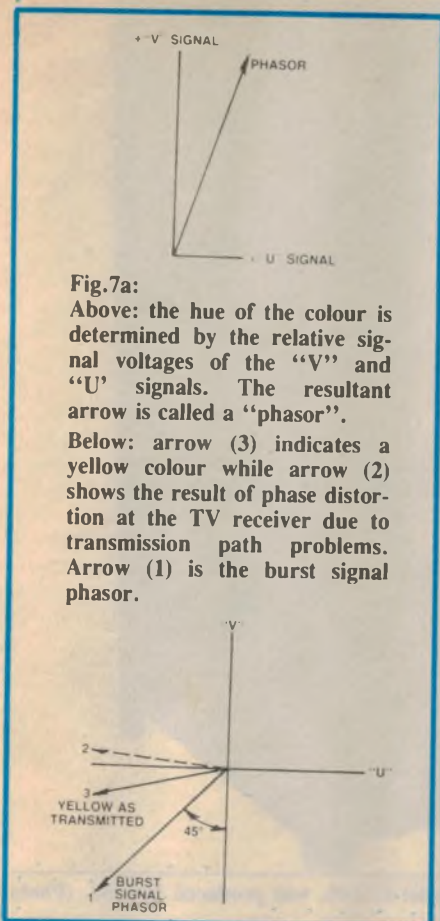
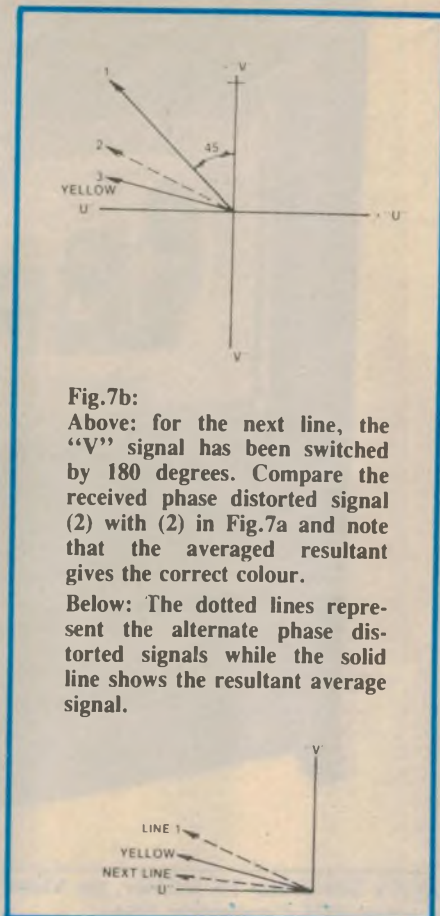

Fig. 7a:
Fig. 7b:
Above: for the next line, the "V" signal has been switched by 180 degrees. Compare the received phase distorted signal (2) with (2) in Fig. 7a and note that the averaged resultant gives the correct colour.
the colour signal will be changed, and incorrect colours will be displayed. This occurs in the NTSC system (Fig. 7a). This is the reason why, in the PAL system, the 4.43MHz oscillator signal supplied to the modulator handling the "V" signal is switched 180 degrees on alternate lines of picture signal. Now if the colour signal received by the viewer suffers phase distortion, the next line with the "V" signal 180 degrees in opposite phase will correct the error, producing the correct colour (Fig. 7b).
The burst signal is referred to as the "PAL swinging burst" because its phase changes with each transmitted line of picture information by 90 degrees, keeping it in step with the transmitted "V" signal (Fig. 7a and 7b). Notice that the burst vector on the first line is shown 45 degrees above the "U" axis line, and on the next line 45 degrees below the "U" axis.